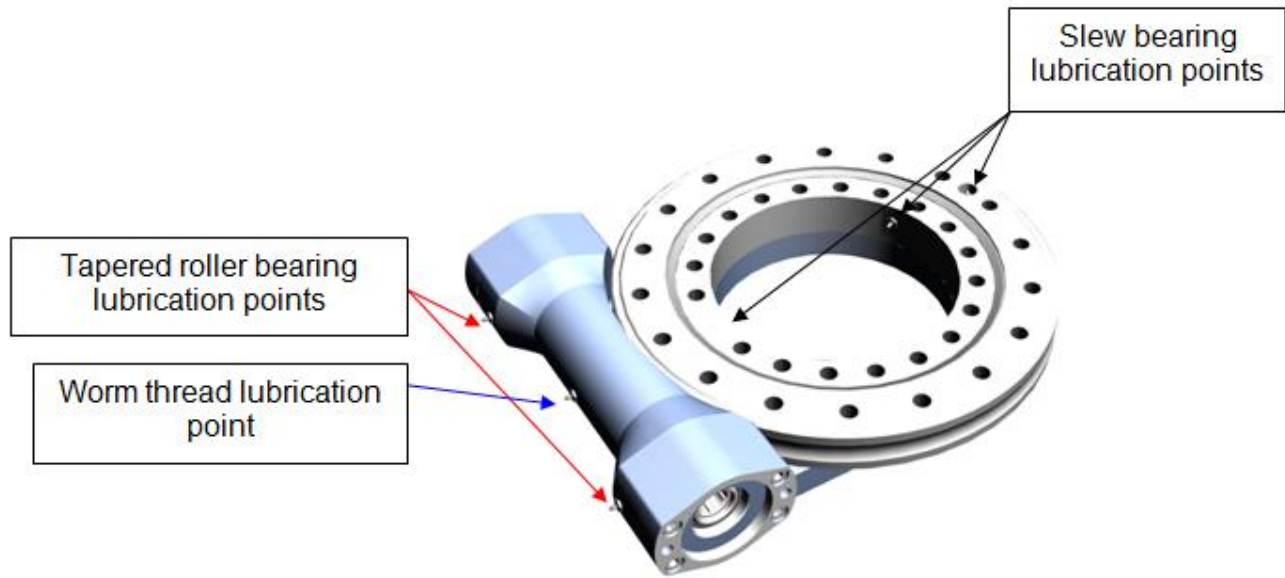

Figure 5. Slew Drive Maintenance Points
- While rotating the slewing drive, inject grease into the cleaned grease fittings, according to Figure 5.